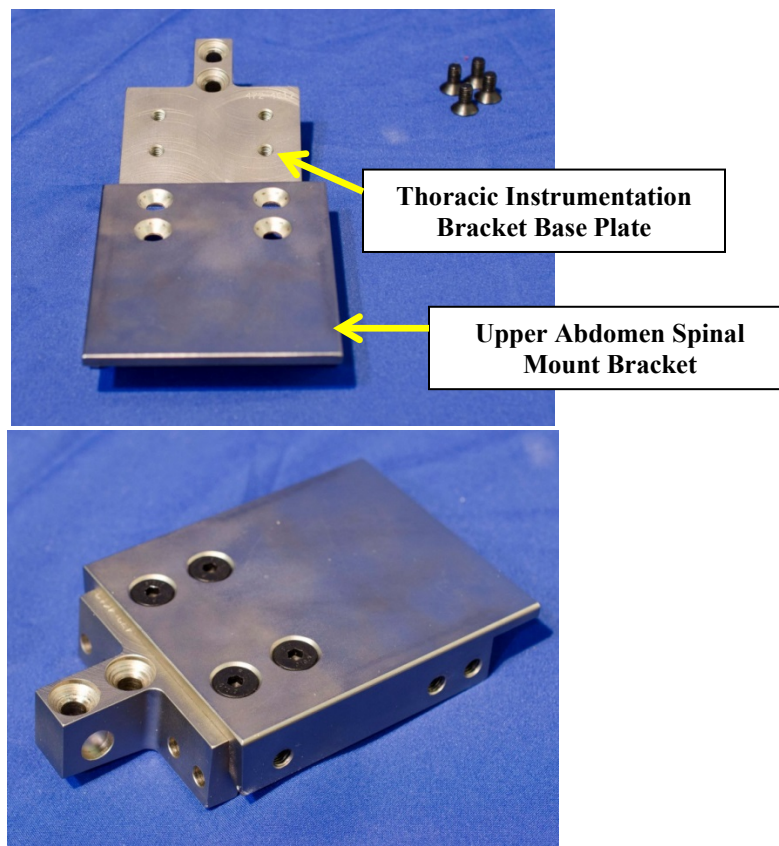

Figure 8-13. Assemble spinal mount bracket to thoracic instrumentation bracket base plate
- 8.2.2.8 Assemble the Spinal Mount Bracket Assembly (472-4610) by attaching the Thoracic Instrumentation Bracket Base Plate (472-4612) to the Upper Abdomen Spinal Mount Bracket (472-4613) using four M6 X 1 X 12 FHCS (Figure 8-13).